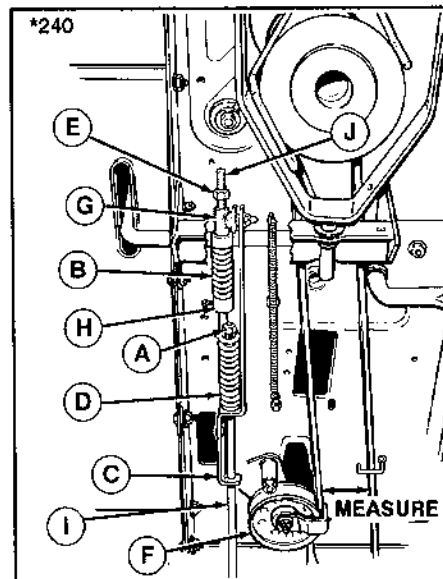

Figure 26. Brake-Clutch Adjustment
- Place the transmission in gear and release the parking brake. Move the brake rod (I, figure 26) back and forth to be sure there is no tension on the brake pads.
- Adjust the brake rod nut (A, figure 26) until spring (D) is compressed to $2 \frac{11}{32}$ " length.
- b. Apply 15-20 ft. lbs. to force idler pulley (F, figure 26) to firmly seat transmission drive belt. Measure the distance between the belt strands (from inside to inside). Distance should be between 2 3/4" and 3 3/8".
- d. Make sure spring (B, figure 26) is seated against spacer over rod guide (G) and set collar (H) is against spring. Apply 15-20 lbs. pressure on idler pulley (F) to position belt in pulley. Push set collar (H) against spring (B) to compress spring to 2 7/16" ($\pm 1/16"$) and tighten setscrew. Release idler pulley and check dimension. If adjustment is required, apply parking brake, loosen setscrew, reposition set collar, and tighten set collar. Release parking brake and recheck dimension until 2 7/16" dimension is achieved.
- e. Measure distance between rod guide (G) and nut (E). Distance should be 5/8". Turn nut as required to correct distance.